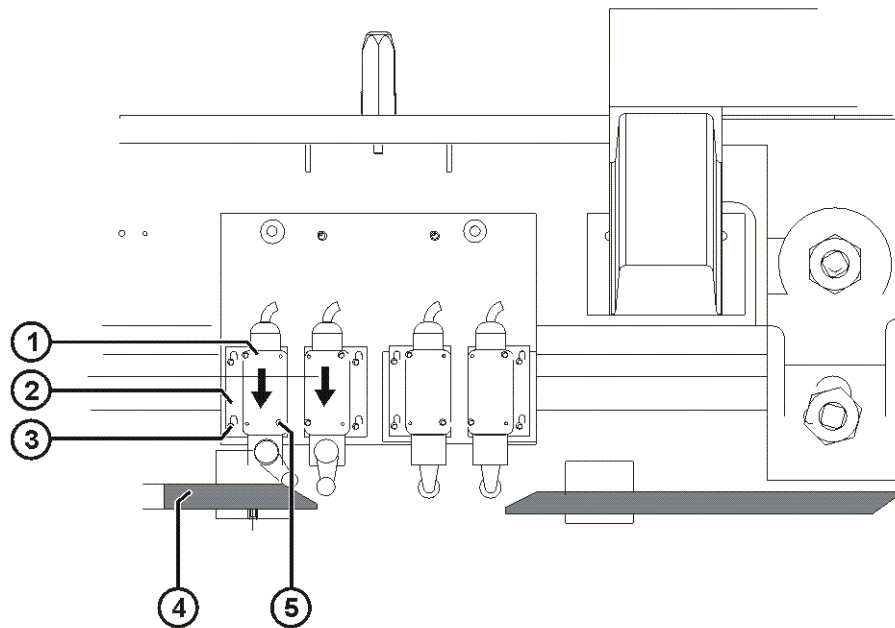
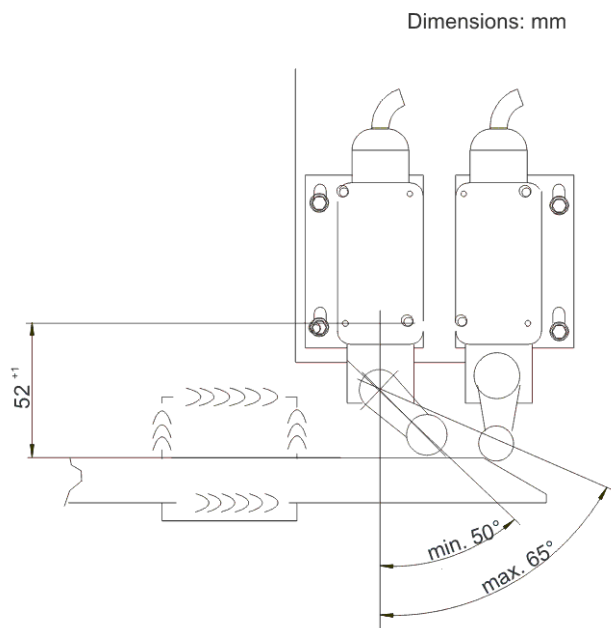

Fig. 14-4: Adjusting the position switch
Fig. 14-5: Adjustment dimensions
1. Slacken two Allen screws (>>> Fig. 14-4) (3).
2. Slide the position switch towards the cam until there is a distance of 52 mm (>>> Fig. 14-5) between the cam and the fastening screw (5).
3. Tighten the two Allen screws (>>> Fig. 14-4) (3). To guarantee positive opening operation, an actuating angle of at least 50° (>>> Fig. 14-5) must be maintained.